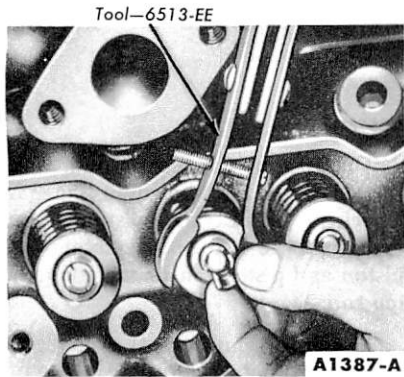

FIG. 31—Valve Spring Retainer Locks Removal or Installation
2. Compress the valve springs (Fig. 31). Remove the valve retainer locks and release the spring.
4. Compress the spring and install the retainer locks (Fig. 31).